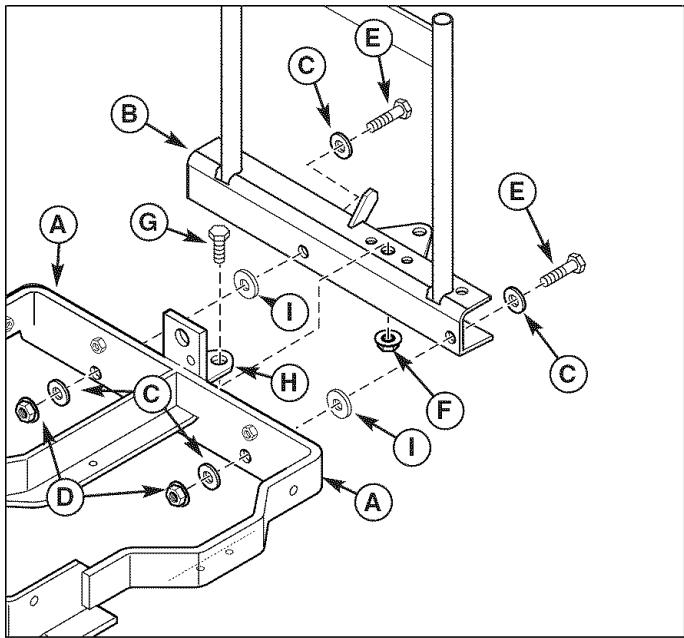

Figure 4. Install Hitch Assembly, without Weights
1. Attach hitch assembly (B, Figure 4) to frame (A). Secure with 3/8-16 x 1-3/8 capscrews (E), washers (I), washers (C) and nut (D) as shown. Finger tighten at this time.
2. Install 1/2-13 x 1-1/4 capscrew (G) through drawbar (H) and tighten.